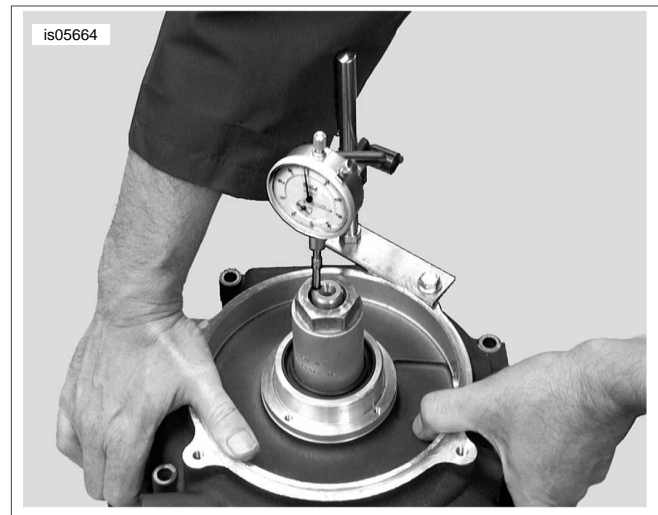

Figure 15. Check Flywheel End Play
- a. See Figure 15. Mount a dial indicator on the case half. Set the indicator contact point on the end of the dummy sprocket shaft.
- d. See Figure 15. Mount a dial indicator on the case half. Set the indicator contact point on the end of the sprocket shaft.